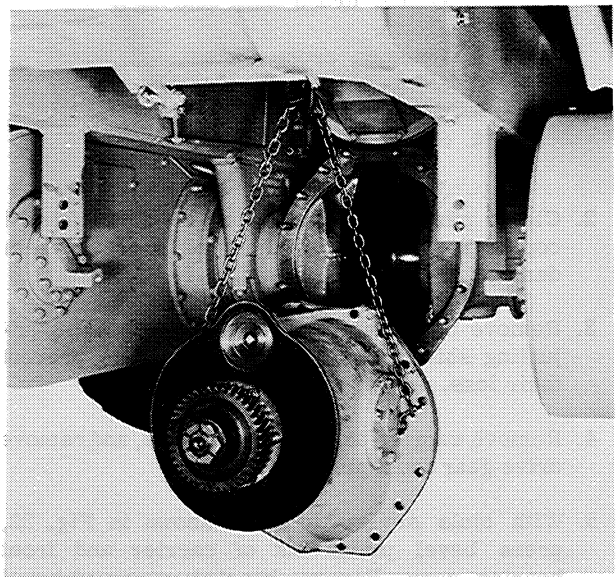

Fig. 19 Removing Cross Shaft Housing Assembly (T-39437)
5. Lower suitable hoist down through open space where seat and seat frame, batteries, etc. were removed. Refer to Fig. 19, and attach a suitable length of chain to each side of cross shaft housing under bearing cover capscrews.